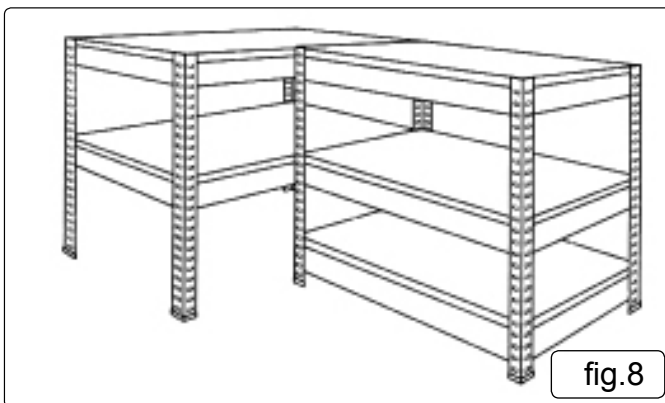

fig.8
5.9. See fig.8. To assemble as a corner unit make up two separate frames following steps 5.1 to 5.3 but with different shelving positions. Make up one frame with 3 shelves and one frame with two shelves as shown below. Ensure that the middle and top shelves are at the same height. Fix the frames together with the four nuts and bolts supplied. Place the 5 MDF shelves into position in the frames.